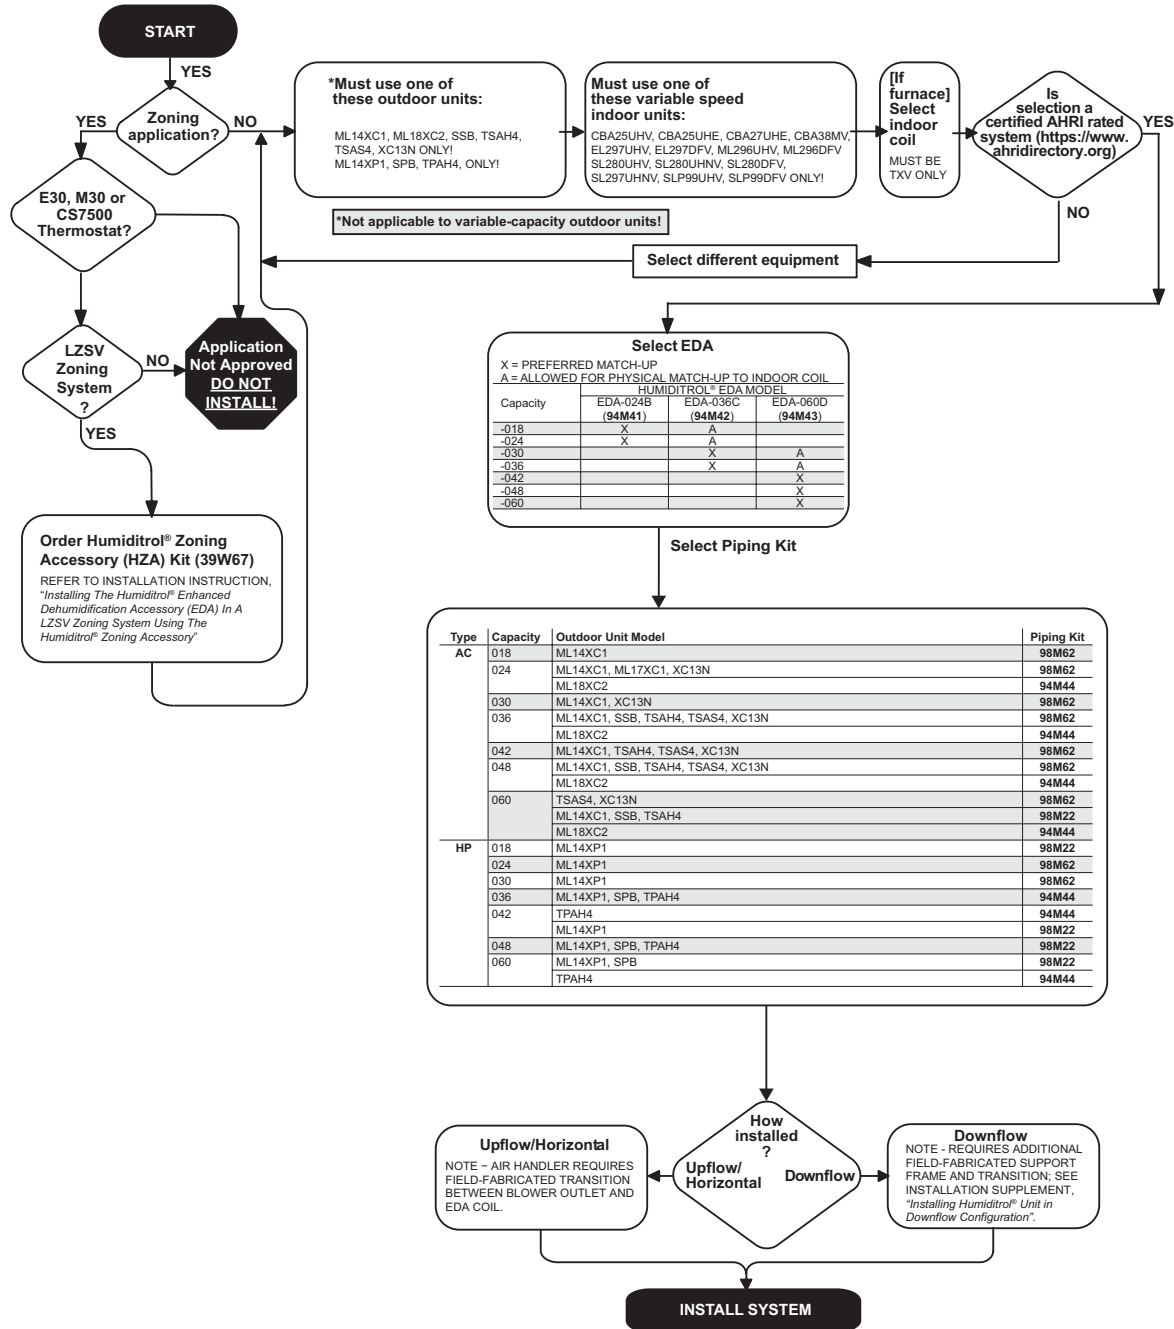

Figure 1. Decision Tree
|                      | Humiditrol Insulation and Piping Kit (refer to “Figure 1. Decision Tree” on page 5).                                            |
- Prior to installation, study the decision tree (see “Figure 1. Decision Tree” on page 5) to confirm that all application requirements for Humiditrol installation are met.
Before beginning installation, be sure the HVAC system components are compatible with the Humiditrol. See “Figure 1. Decision Tree” on page 5 for the system decision tree that describes compatible components of the system. One of the following thermostats is required for the Humiditrol system: